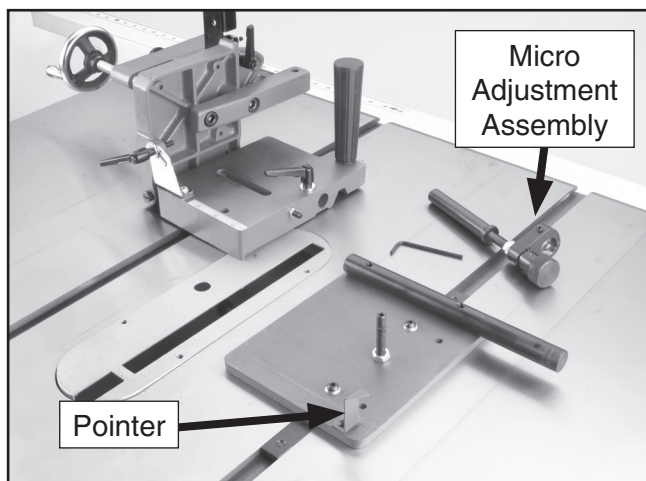

Figure 6. Jig base on a right-tilt table saw.
3. Loosen the pointer screw, and turn the pointer 90° so the jig assembly and base can be separated (see **Figure 6**).
5. Slide the micro adjustment assembly out of the jig, and lift the jig assembly from the base as shown in **Figure 6**.